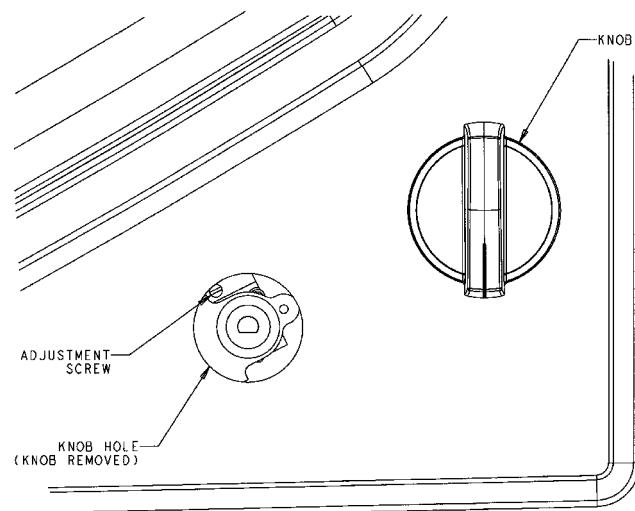

FIGURE 13
### C. LOW FLAME ADJUSTMENT (See figure 13)
3. Locate the valve adjustment screw. See figure 13.
- Locate the valve adjustment screw. See figure 13.